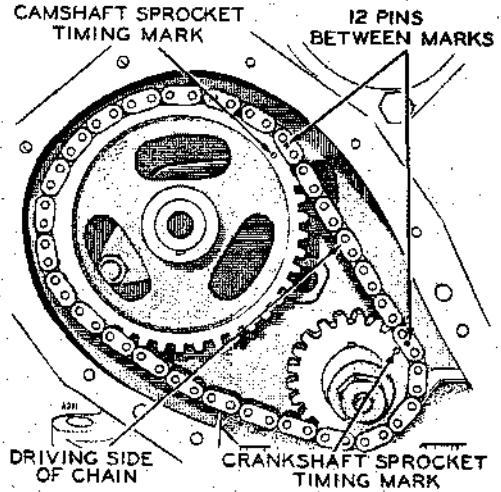

FIG. 23. TIMING CHAIN
**VALVE TIMING.** - The camshaft is driven by the crankshaft through a silent timing chain at the front of the engine. Proper valve timing is provided by installation of the timing chain as shown in Figure 23.